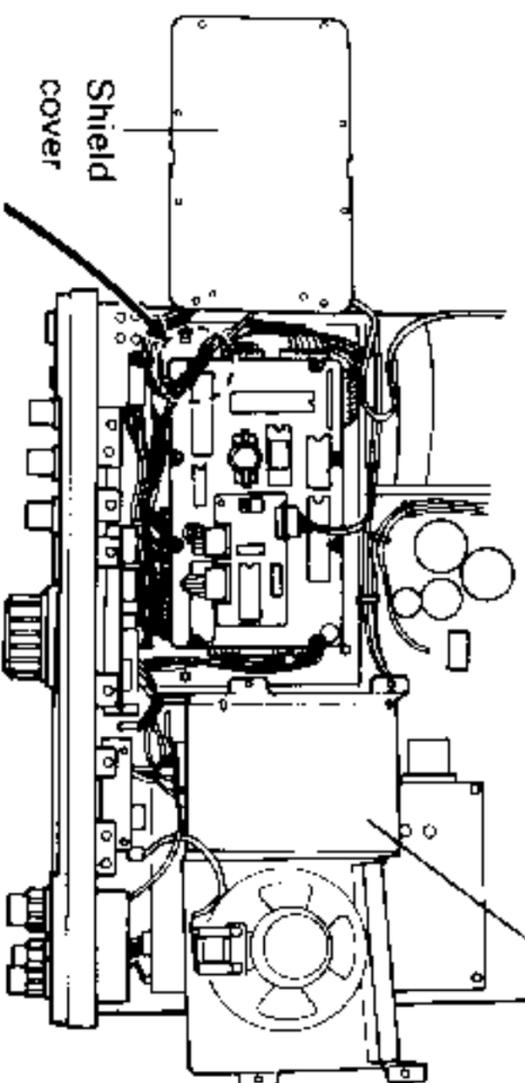

Fig. 3-5
3. Next remove the eight screws that secure the shield covering Digital A unit. Swing the cover to the side. Again be careful of the wiring harness. (Fig. 3-5)